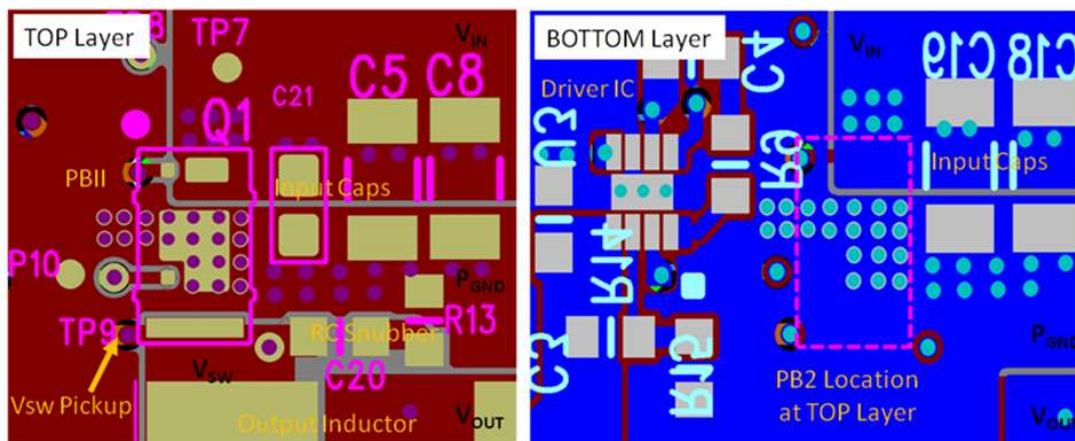

Figure 29. Recommended PCB Layout (Top Down View)
- The placement of the input capacitors relative to VIN and PGND pins of CSD87588N device should have the highest priority during the component placement routine. It is critical to minimize these node lengths. As such, ceramic input capacitors need to be placed as close as possible to the VIN and PGND pins (see Figure 29). The example in Figure 29 uses 1 x 10 nF 0402 25 V and 4 x 10 μF 1206 25 V ceramic capacitors (TDK part number C3216X5R1C106KT or equivalent). Notice there are ceramic capacitors on both sides of the board with an appropriate amount of vias interconnecting both layers. In terms of priority of placement next to the Power Stage C21, C5, C8, C19, and C18 should follow in order.
- The switching node of the output inductor should be placed relatively close to the Power Block II CSD87588N VSW pins. Minimizing the VSW node length between these two components will reduce the PCB conduction losses and actually reduce the switching noise level. See Figure 29. ⁽¹⁾
- Use the smallest drill size allowed in your design. The example in Figure 29 uses vias with a 10 mil drill hole and a 16 mil capture pad.